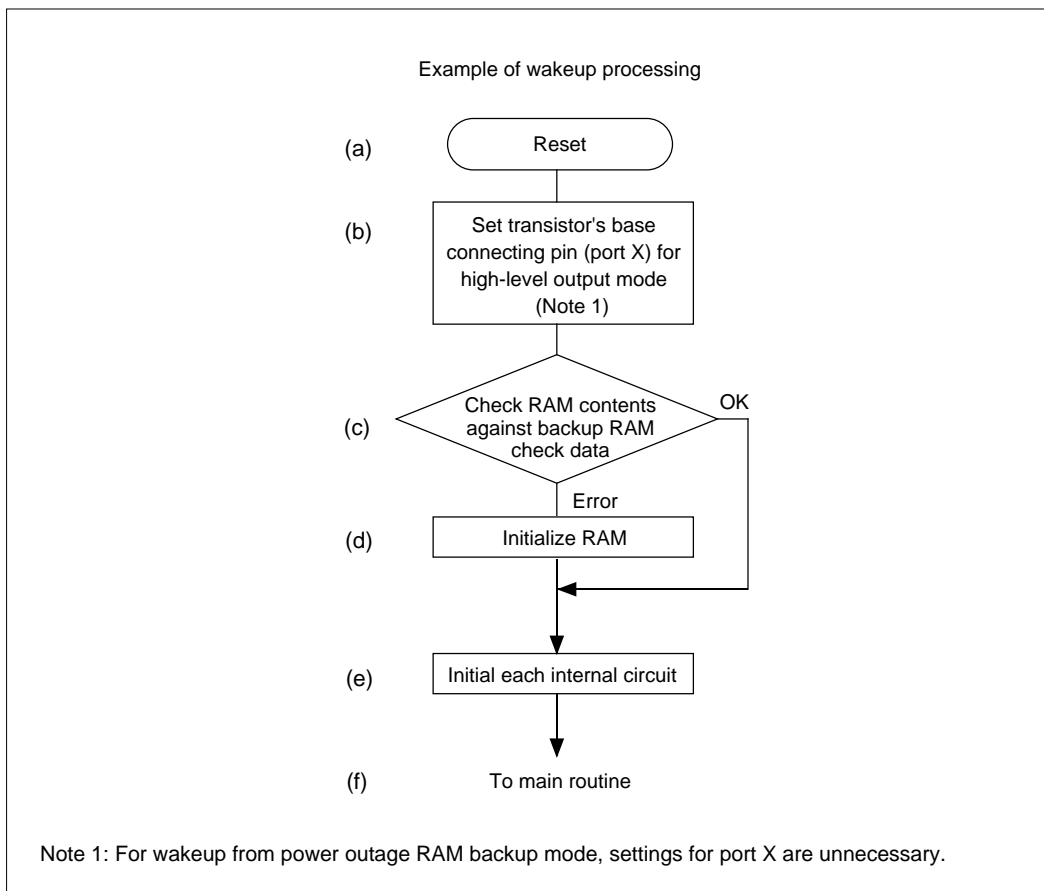

Figure 17.4.1 Wakeup Processing
Processing to exit RAM backup mode and return to normal operation is referred to as "wakeup processing." Figure 17.4.1 shows an example of wakeup processing. Wakeup processing is initiated by reset input. The following shows how to execute wakeup processing.
- (1) Reset the device ((a) in Figure 17.4.1). For details about reset, refer to Chapter 7, "Reset."
- (2) Set port X for output mode and output a high from the port ((b) in Figure 17.4.1). (Note 1)
- (3) Check the RAM contents against the check data created before entering RAM backup mode ((c) in Figure 17.4.1).
- (4) If the RAM contents and check data did not match when checked in (3), initialize the RAM ((d) in Figure 17.4.1). If the RAM contents and check data matched, use the retained data in the program.
- (5) After initializing each internal circuit ((e) in Figure 17.4.1), return the main routine ((f) in Figure 17.4.1).